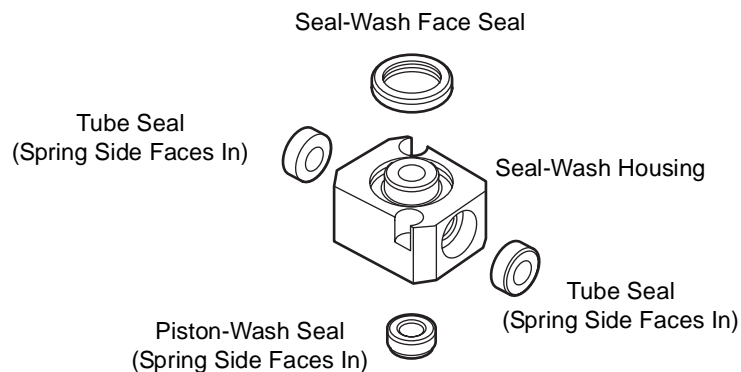

Figure 4-24 Seal-Wash Assembly Seals
Replacing the seal-wash seals involves replacing the seal-wash face seal, two tube seals, and the piston-wash seal (Figure 4-24).
1. Use the plastic end of the seal insertion and removal tool to remove the piston-wash seal from its seat. Repeat this procedure for each tube seal (Figure 4-24).